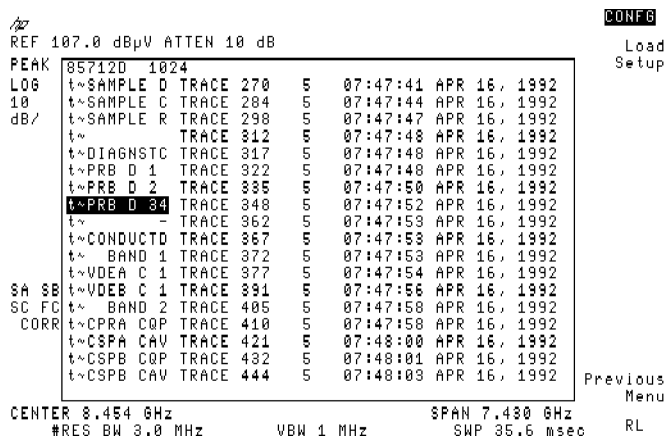

Figure 3-2. PRB D 34 Selected
4. Press **Setup**. Scroll down to PRB D 34 and highlight the setup file. See Figure 3-2.